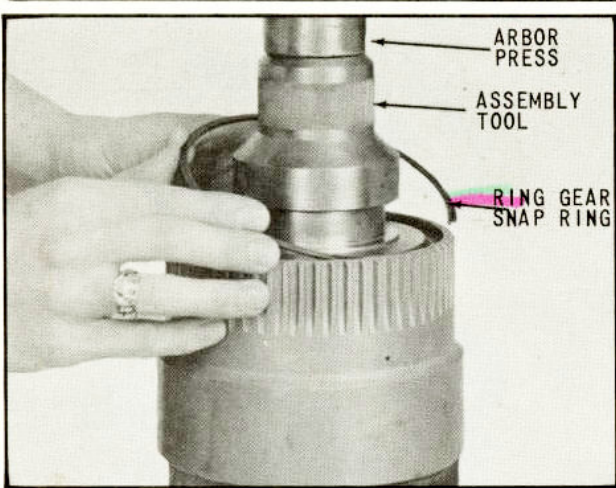

Fig. 38 Installing Ring Gear Snap Ring
30. While maintaining load from arbor press, assemble ring gear snap ring, (Fig. 38). Tap ring while in place to insure full seating of ring in groove.